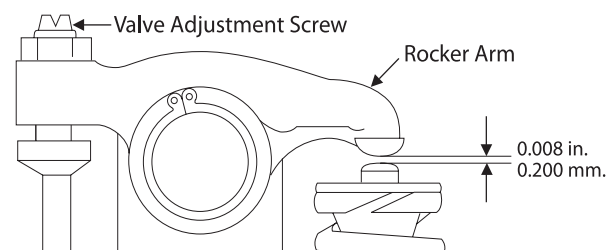

Figure 9: Valve Adjustment
4. Loosen the lock nut and adjust the clearance between the rocker arm and valve guide of both the intake and exhaust valves with the adjustment screw (Figure 9). Clearance on both intake and exhaust valves should be 0.008 in. (0.2 mm).